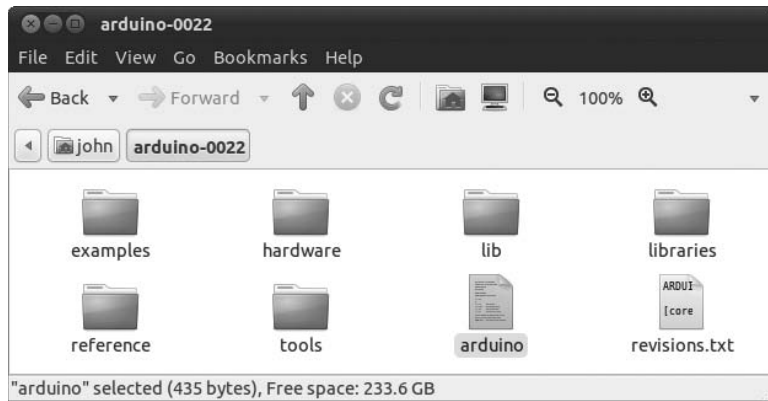

Figure 1-26: Your Arduino IDE folder with the `arduino` file selected
1. Connect your Arduino to your PC with the USB cable. At this point you want to run the Arduino IDE, so locate the *arduino-0022* folder you copied earlier and double-click the *arduino* file that's selected in Figure 1-26.